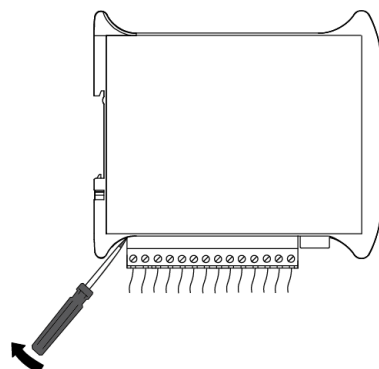

Fig. 4 Replacement of terminal blocks
1. Take off the terminal blocks without disconnecting the wires (Fig. 4).